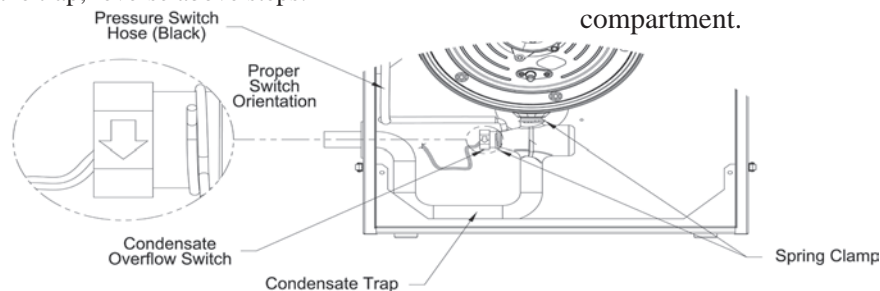

Figure 60: Condensate Overflow Switch Orientation
- e. Apply silicon sealant to the replacement switch threads and install the switch into the trap body making sure it is properly oriented - the arrow molded into the switch hex end side must face down for proper switch operation. See Figure 60 "Condensate Overflow Switch Orientation" for details.
- j. Insure that fresh silicon sealant is applied to the overflow switch threads and the switch is properly oriented relative to the trap body - the arrow molded into the switch hex side end must face down for proper switch operation. See Figure 60 “Condensate Overflow Switch Orientation” for details.